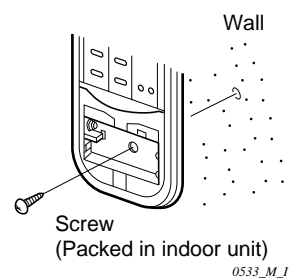

Fig. 4-2
- (f) Hang the remote control unit from the mounting screw, and use a screwdriver to screw the remote control unit securing screw into the wall through the hole in the battery compartment. (Fig. 4-2)